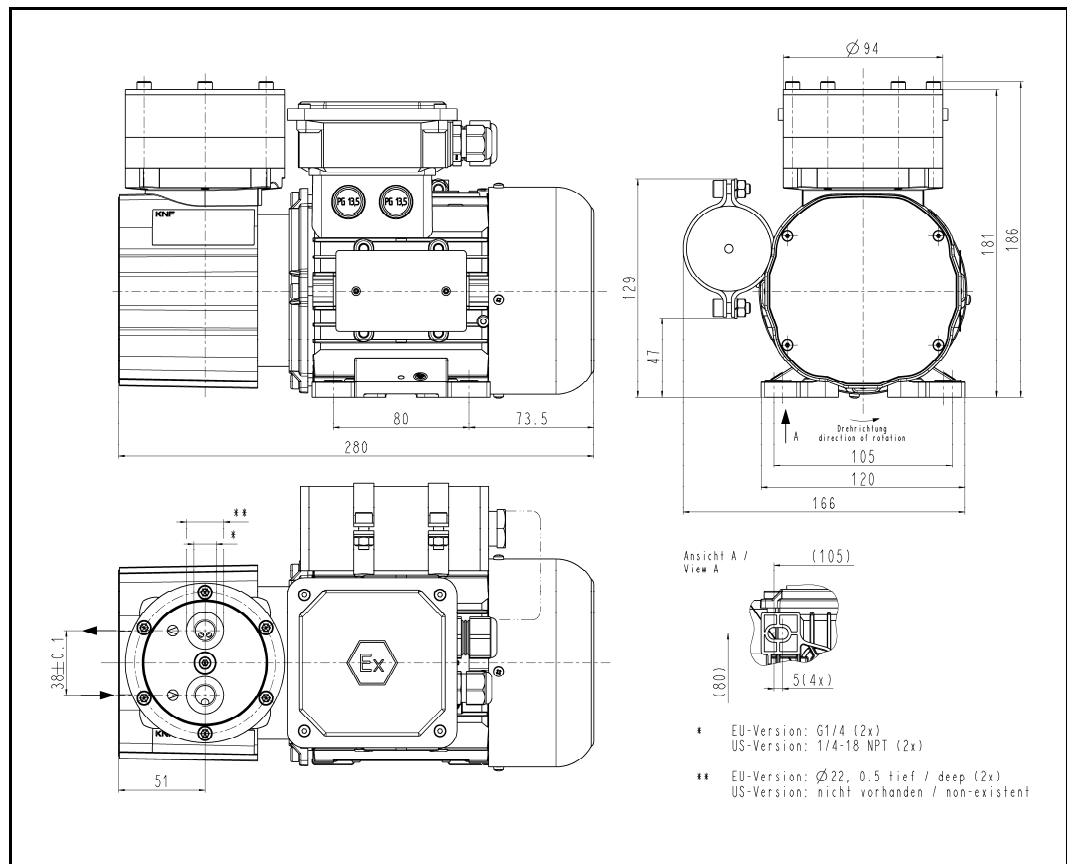
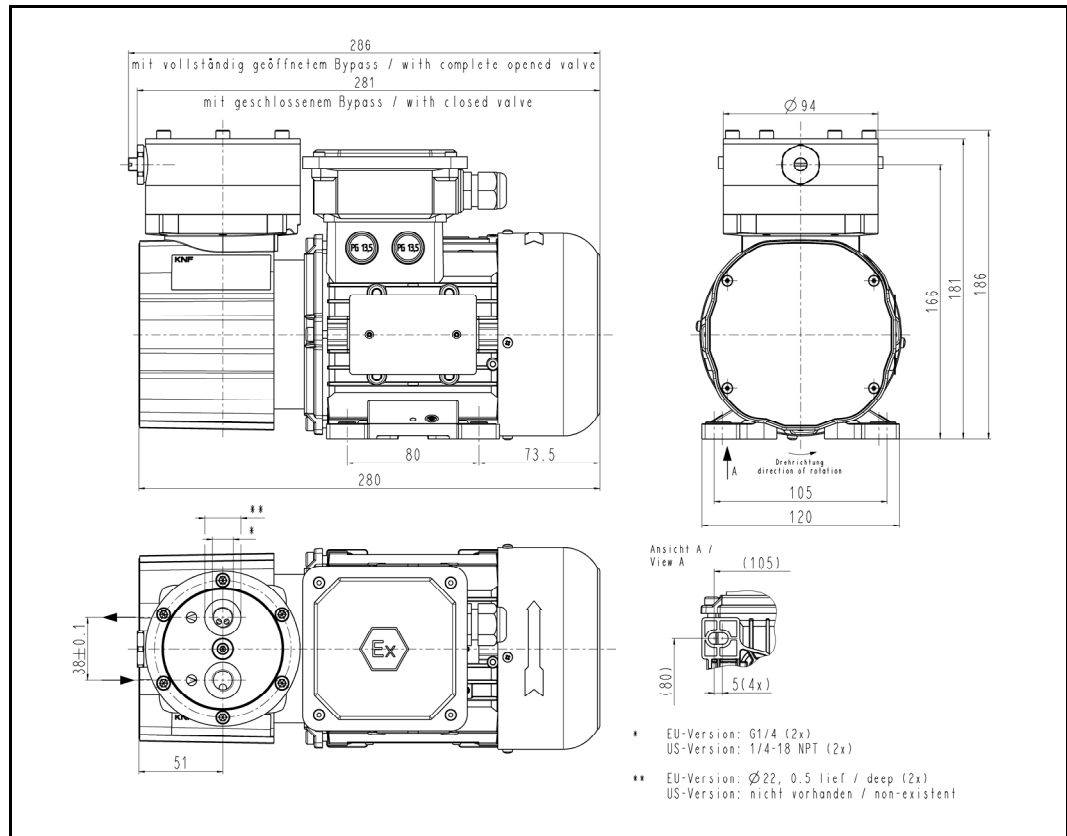

Fig. 3: Mounting dimensions N 922 FTE EX (capacitor motor)
Fig. 6: Mounting dimensions N 922 FT.29E EX (three phase motor)
Mounting dimensions → See Fig. 3 to Fig. 6 for the mounting dimensions.
2. Connect the suction line and pressure line (for thread size and flow direction see Fig. 3 to Fig. 6).